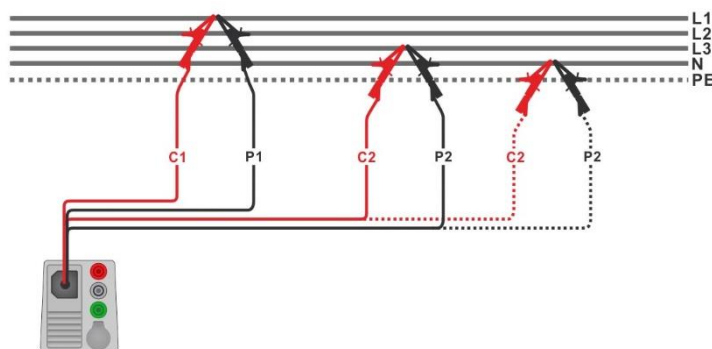

Figure 7.59: Phase-phase or phase-neutral 4-wire line impedance measurement
- › Connect 4-wire test lead to the object under test, see **Figure 7.59**.